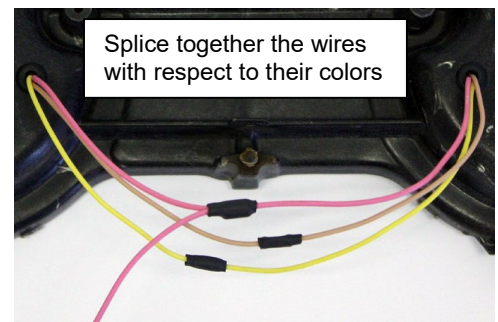

Figure 3
- 3.6. On each housing, bring each matching color wire together for splicing with moderate slack. Cut off excess wire length and strip off 3/16" insulation off each wire. Slide a piece of heat shrink tubing over all wires on the outboard wires. Using the butt splices provided, insert the one color wire into each side and crimp the wires together. Then slide the heat shrink tubing over splice and shrink into place with a heat gun or other suitable heat source. (See Figure 3)